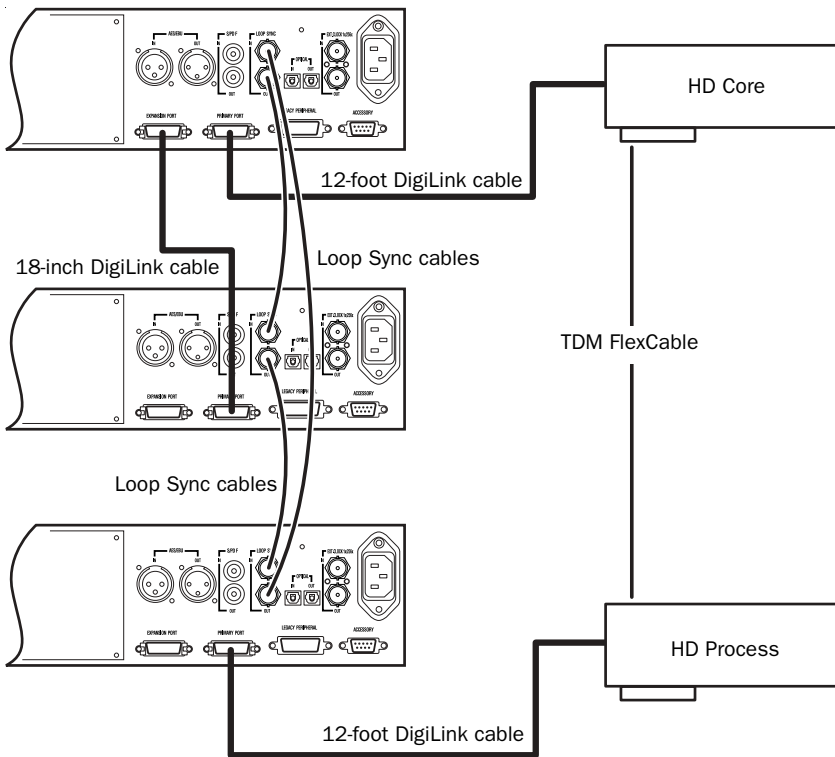

Figure 6. Three 96 I/Os, 48-channel
- 3** Connect additional HD-series audio interfaces to subsequent HD cards. See Figure 6 on page 7 above.